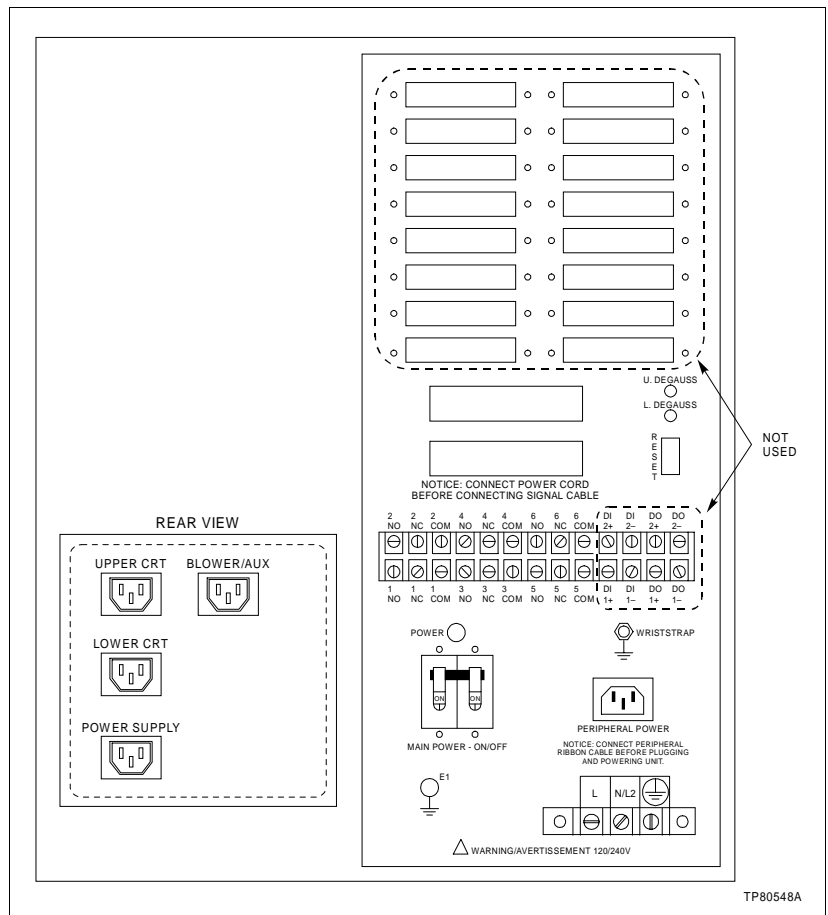

Figure 3-5. IIOIC4323 Console Power Entry Panel Connections
1. Wire AC power to the proper terminals of the power entry panel. Refer to Figure 3-5 for AC input terminal location.